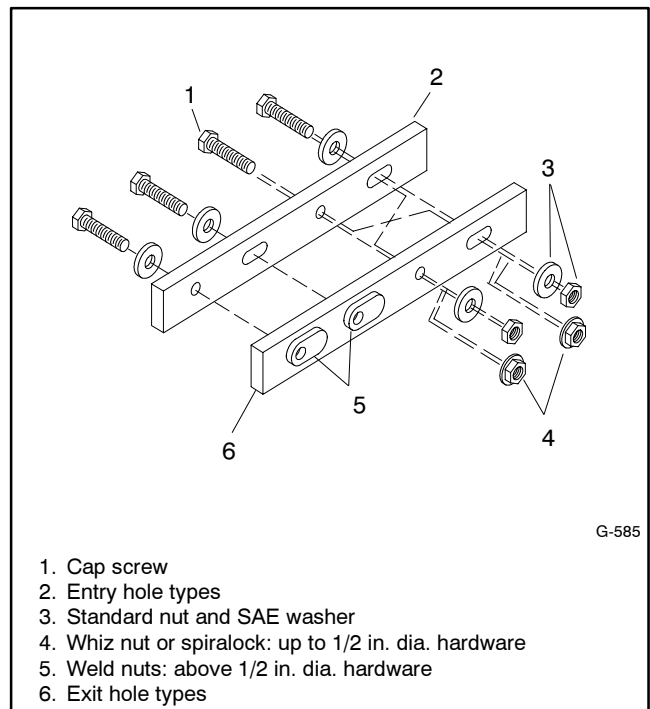

Figure 2 Acceptable Hardware Combinations
For round and slotted exit holes, determine if hardware is greater than 1/2 inch in diameter, or 1/2 inch in diameter or less. Hardware that is *greater than 1/2 inch* in diameter takes a standard nut and SAE washer. Hardware *1/2 inch or less* in diameter can take a properly torqued whiz nut or spirallock nut. See Figure 2.
4. Refer to Figure 2, which depicts the preceding hardware configuration possibilities.